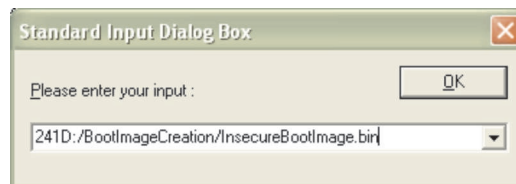

Figure 19. Input Dialog Box
9. Enter *241D:<BootImageCreation Folder>\InsecureBootImage.bin* and press OK in the popup window shown in Figure 19.